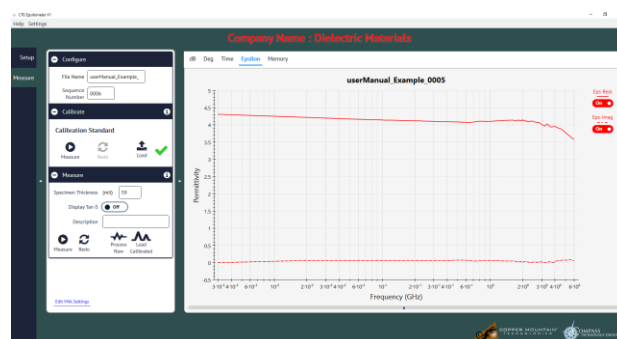

Figure 14. Measure Epsilon
5. Click the “Measure” button within the “Measure” Group Box to measure the permittivity of the specimen (**Figure 14**).